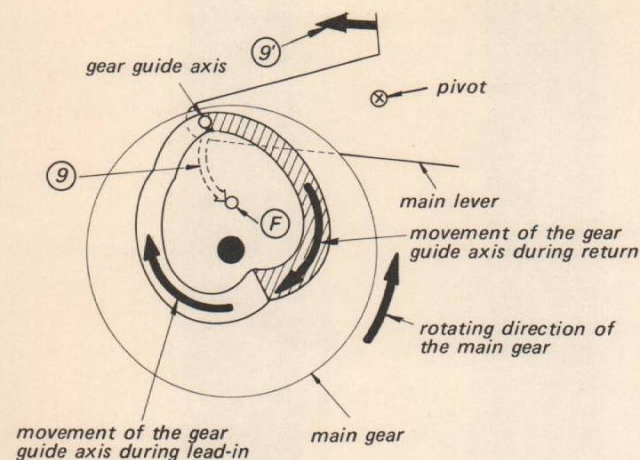

Fig. 3-7.
1. While the record is being played, the main gear and main lever are in the positions as shown in Fig. 3-7.
3. The gear guide axis at the tip of the main lever is moved across to position F by following the curved path 9 due to the guiding action of the shaded portion of the groove in the heart-shaped cam positioned on the main gear. The main lever consequently moves across in the direction of the arrow 9 (see Fig. 3-7).